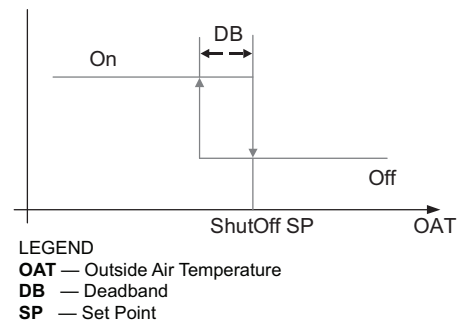

Fig. 65 — Hysteresis Settings
Hysteresis setting (DB) defaults to 2°F (–16.6°C). See Fig. 65.